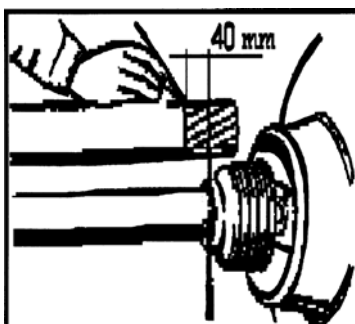

Fig.1
4. In the shortest working position, mark the piece to be sawn on one half of the PTO shaft. (Fig. 1)